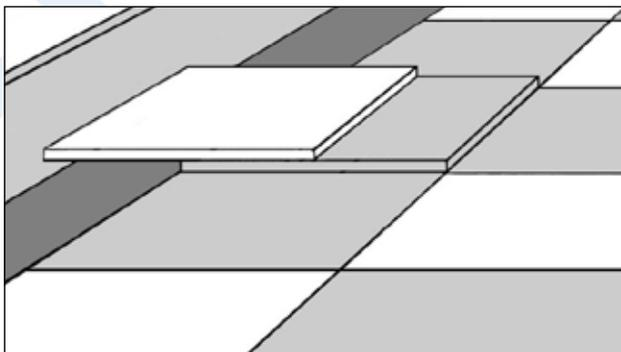

Fig. 3: Overlapping method
5.5.2.1 Overlapping method (Fig. 3)